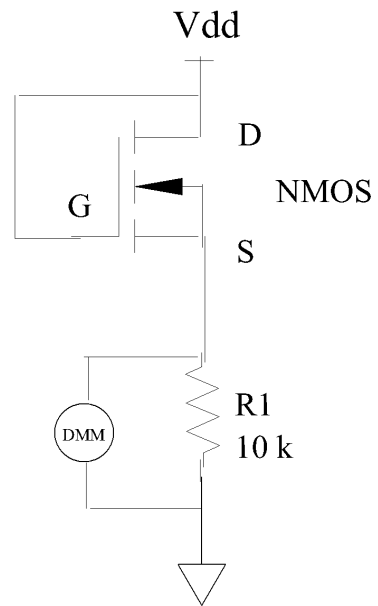

Figure 1
- c. To determine this relationship, use the circuit in Figure 1 and the following procedure to test both the P and N-channel MOSFET transistors.
**Schematic Figure 1:**